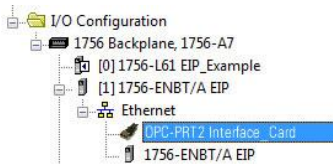

Figure 32: AOP Interface Card I/O Configuration
- 14) You should now see the interface card in the 1756-ENBT/A branch under the I/O Configuration in the controller organizer view. The full I/O Configuration tree should appear similar to Figure 32.